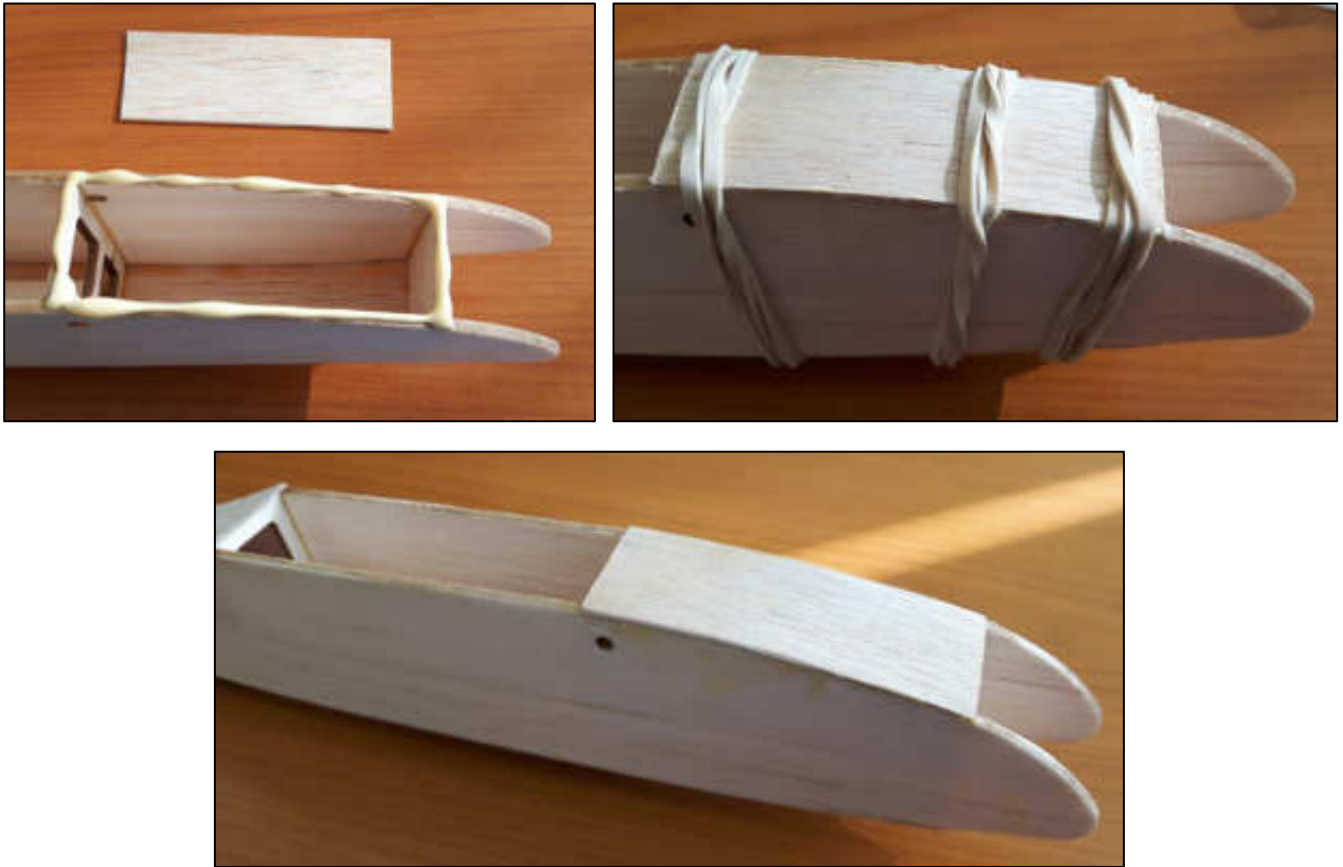

Figure 22: Glue skin to front of the top of the fuselage.
22. Repeat step 21 to glue an additional piece of skin to the front of the fuselage, or you can do this at the same time as step 21, see Figure 22.